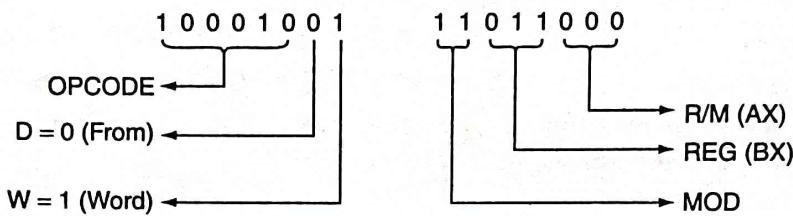

Figure 10 Coding of MOV AX, BX (From).
If we consider "from BX register", then the coding appears as given in Fig. 10. Observe that D = 0 (From) and REG = 011 (BX) and R/M = 000 (other register AX). This example highlights the important fact that if both the operands are registers, then same instruction can be coded in two different ways.